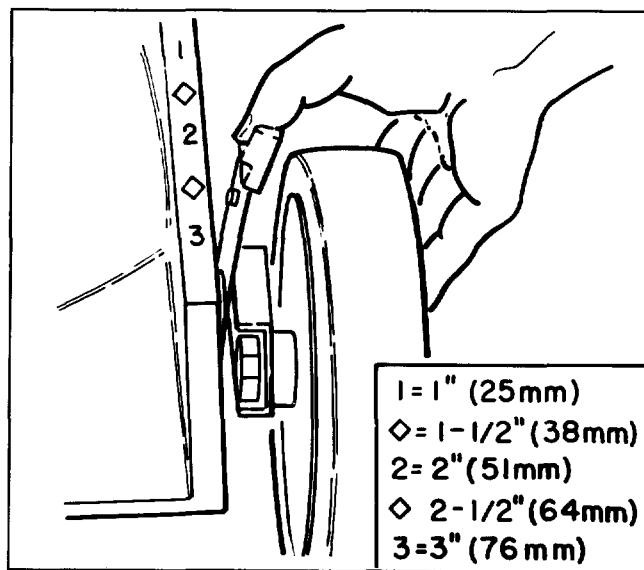

Figure 9
- For easier adjustment, lift housing up so wheel is off ground. Do not place hands under deck to lift housing. Squeeze adjusting lever toward wheel (Fig. 9) and move it to the desired setting. Assure pin on adjusting lever engages notch in housing. Adjust all wheels to the same setting.